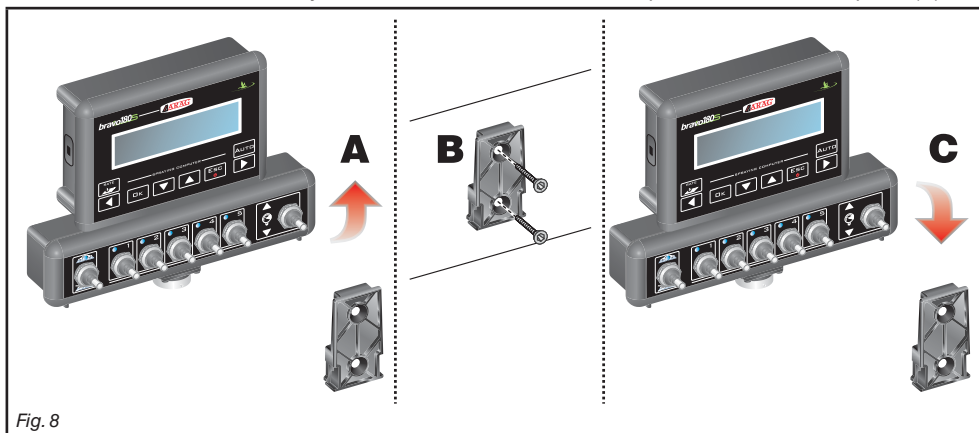

Fig. 8
The monitor must be mounted after having fixed the bracket at the desired location (the previous paragraph shows the bracket drilling template). The bracket must be slid out of the monitor seat (A, Fig. 8) and fixed using the supplied screws (B). Make sure the bracket is securely mounted, fit the monitor on it, and push it until it locks in place (C).